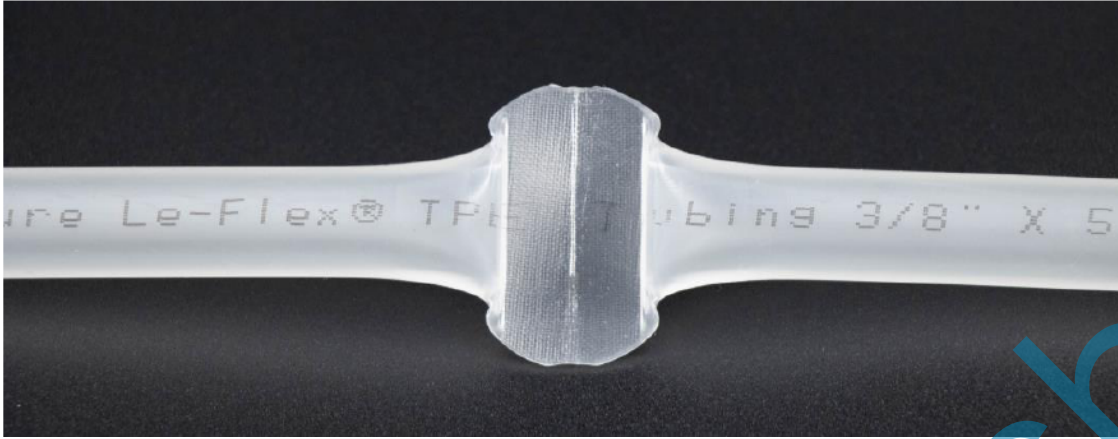

Figure 3. Effect of aseptic sealing of Le-Flex® TPE thermoplastic tube by LePure II tube sealing machine
The transfer of tubing in various processes involves aseptic disconnection (aseptic sealing) and should avoid fluid leakage due to incomplete heat sealing during actual use. For untreated, 25-40 kGy gamma-irradiated, and high-pressure steam (121°C, 30 min) treated Le-Flex® TPE thermoplastic tubing, aseptic sealing was performed using Le-Pure's second-generation aseptic automatic tube sealer, as shown in Figure 3. After heat sealing, the following tests were performed to verify the aseptic sealing effect: (1) visual inspection of the sealing effect (2) gas tightness test (3) bursting pressure test.